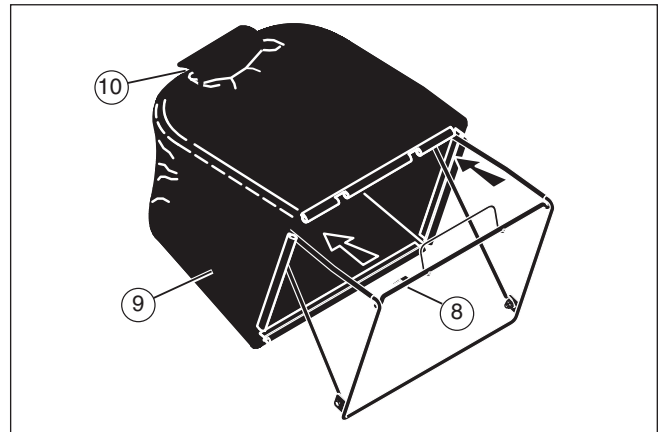

Figure 6
3. Slide the frame assembly (8) into the grass bag (9) (see **Figure 6**). Make sure the Velcro flap (10) is on top.